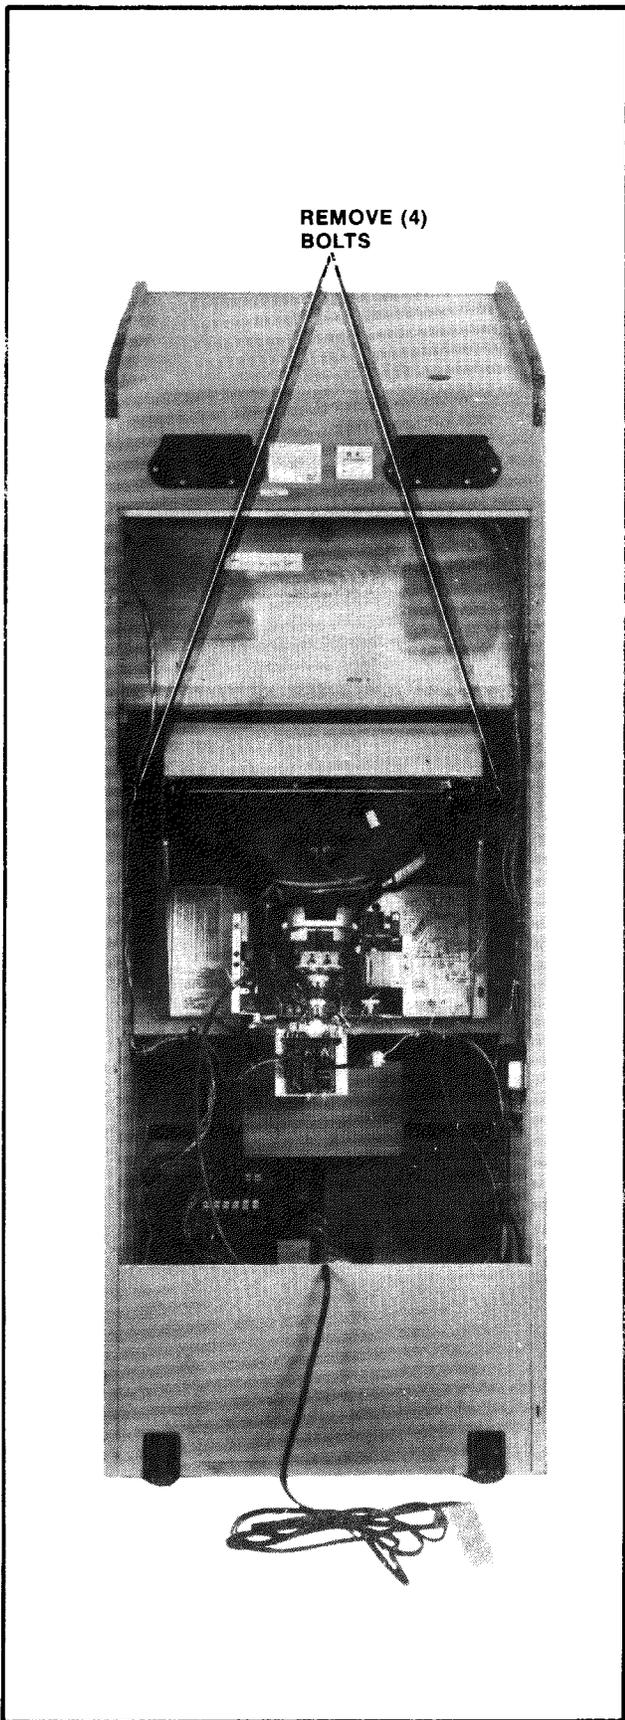

Figure 4-8 Removing the Monitor — Upright
### 1. UPRIGHT MODEL: (See Figure 4-8).
- The monitor mounting channels slide on top of and against two metal guides mounted to the cabinet's right and left side. The monitor is removed by sliding it out the back of the cabinet. See Figure 4-8.